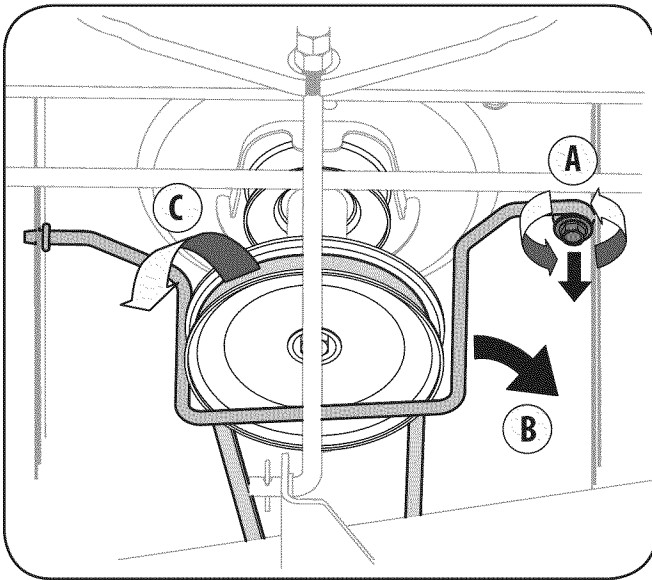

Figure 7-1
3. Removing the self-tapping screw (A) that secures the belt-keeper rod from around the tractor's engine pulley, then remove the belt keeper rod (B). See Figure 7-1.
4. Remove the belt (C) from around the tractor's engine pulley. See Figure 7-1.